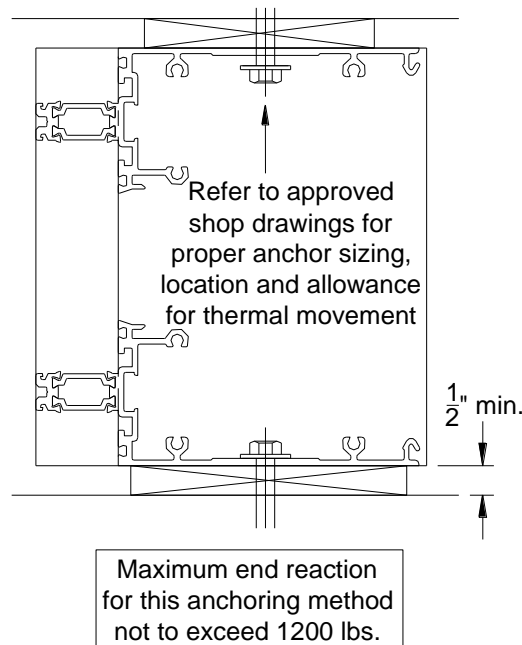
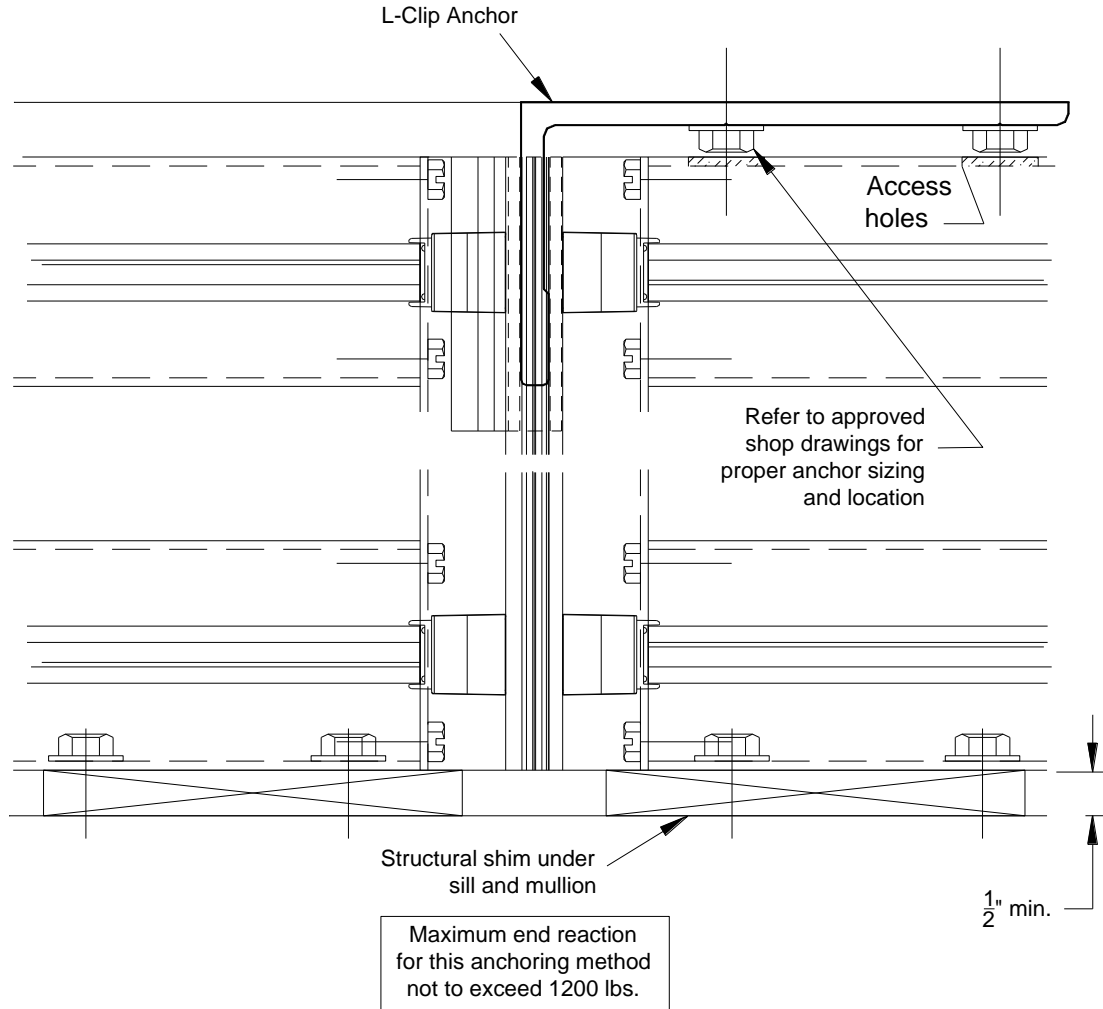

Figure 12: Hard Anchor Method
Figure 13: Slide-In Anchor Method
- 6.1 **Reliance™-TC SS** can be anchored to the building condition by either hard fastening directly through the head/sill member, **see FIGURE 12**, or slide-in mullion anchors that fit inside the vertical mullions. **See FIGURE 13**. If using the slide-in anchors, install into ends of mullions prior to erecting the frame.